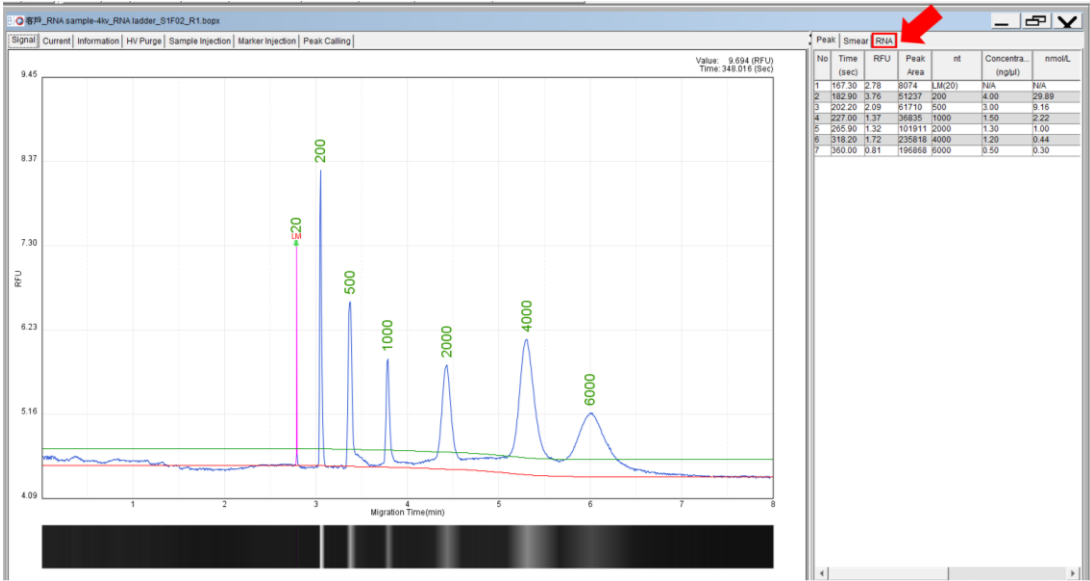

Figure 5-17 RNA Sample Result
Step 1. Select the **RNA** tab to calculate the RQN (Figure 5-17).